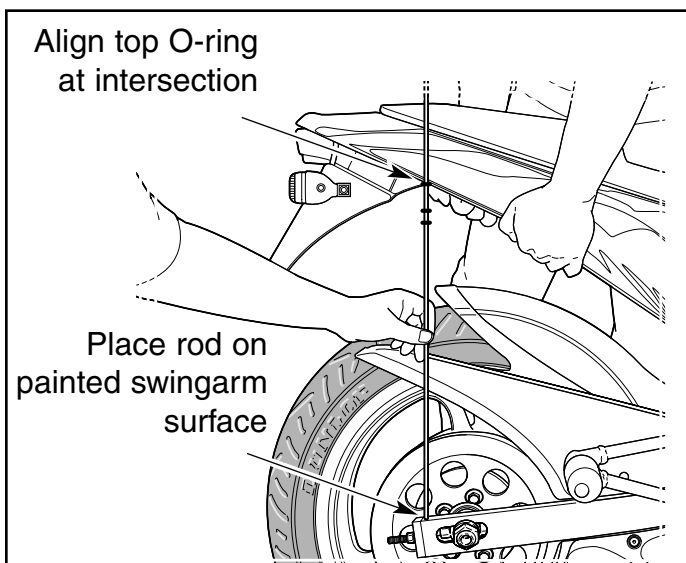

Figure 1 Unloading rear suspension
3. See Figure 1. Take the first measurement. You will need a 24 in. (610 cm) welding rod and three O-rings.